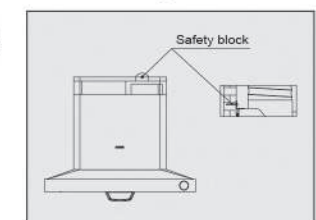

Fig.16
7. Refer to Figure 16 to locate the position where drilling shall be carried out via the percussion drill. Embed the expansion pipe in a secure way, fix the safety stops until finally screw them up with wood screws;